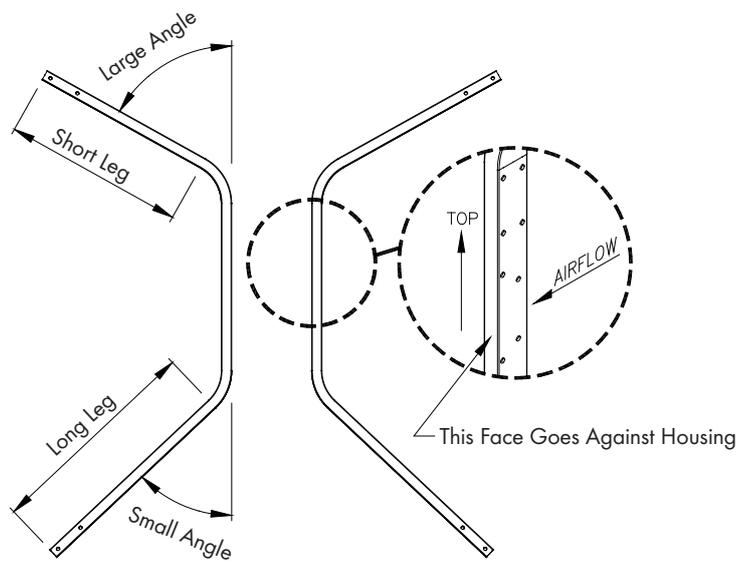
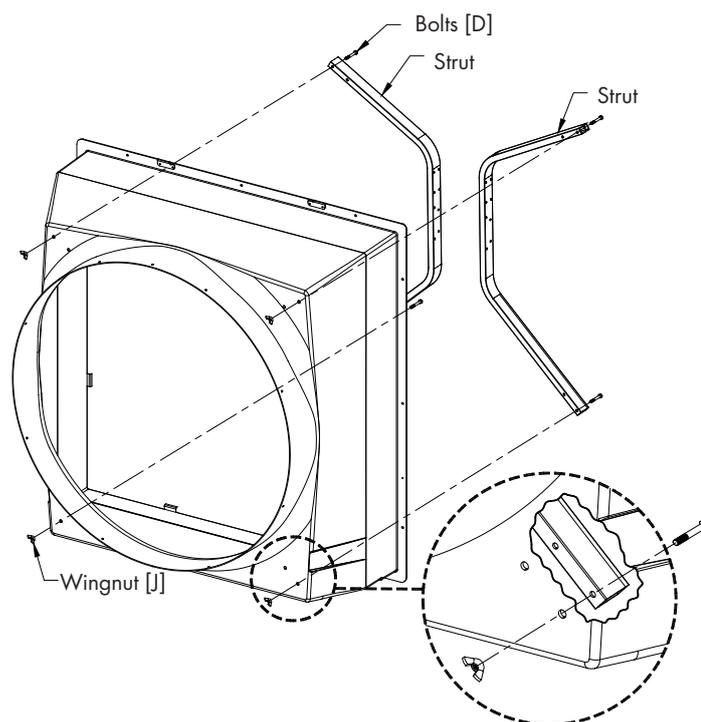

Figure 4A
Figure 4B
Identify the top and bottom legs of the New Tube Struts (supplied). The top leg of the strut is the shorter leg with the larger angle and the bottom leg is the longer leg with the smaller angle. See Figure 4A. Position the Tube Struts into the fan housing and align the outermost holes in each strut leg with the outermost holes in the housing and fasten in place using (4) bolts [D] and wing nut [J]. See Figure 4B.